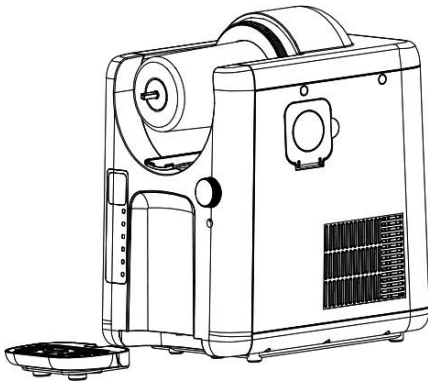

Fig. 1
7. Slide the drip tray into its designated location in the unit (Fig. 1).